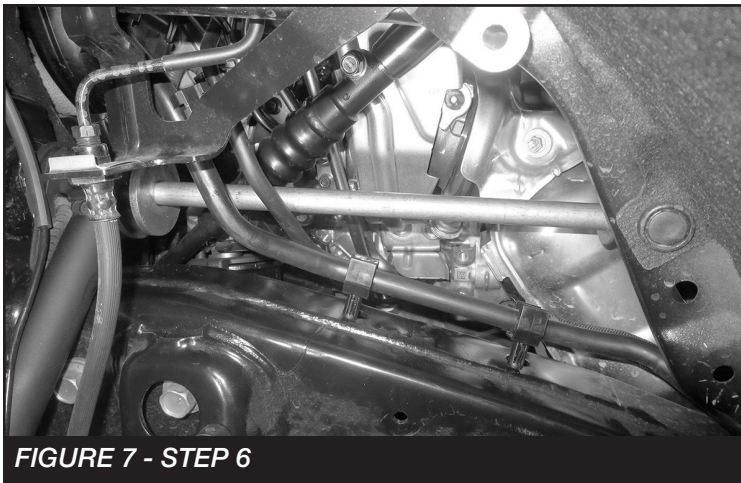

FIGURE 7 - STEP 6
6. Loosen and remove the upper control arm bolt nut. Then, remove the long bolt and factory upper control arm from the vehicle. Save hardware. **SEE FIGURE 7**